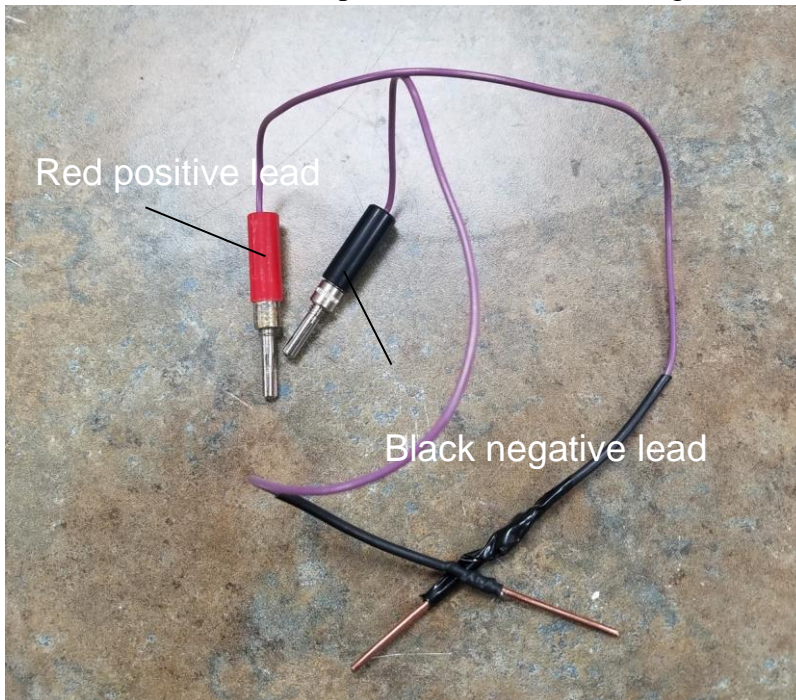

Figure 5-1
We had to make a box to go with our multimeter in Inventor, which is shown in Figure 5-1. First, we inserted the dimensions of the large circle of the meter along with the holes for the two screw on a box. This box was made to hold our entire board and meter, with holes for certain components. There is a hole for the meter, the potentiometer, the rotary switch, and two clips to measure. The dimensions of this box are: 80 mm in height, 144 mm in length, and 60 mm in width.
1. First, locate the red positive lead and black negative lead (Figure 5-1).